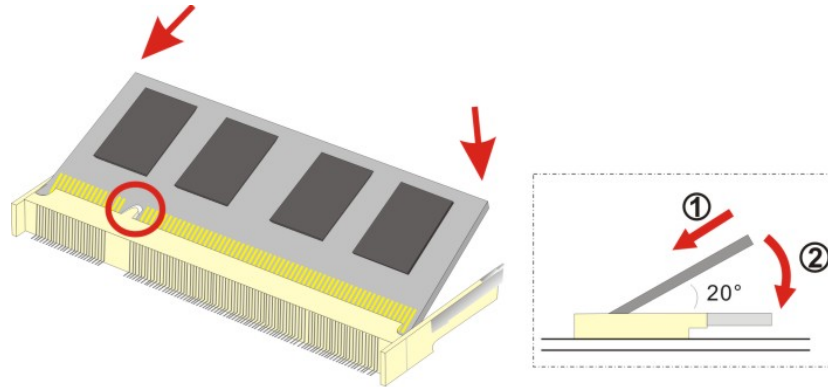

Figure 5-2: SO-DIMM Installation
Step 3: Remove the SO-DIMM by releasing the arms on the SO-DIMM socket. Align the new SO-DIMM with the socket. The SO-DIMM must be oriented in such a way that the notch in the middle of the SO-DIMM must be aligned with the plastic bridge in the socket (**Figure 5-2**).
Step 4: Insert the SO-DIMM. Push the SO-DIMM chip into the socket at an angle (**Figure 5-2**).